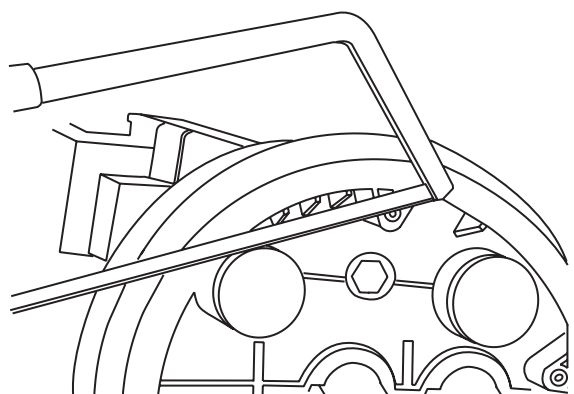

Figure 21 — Open Drop Port
- Step 1** Choose a cable port to be used and open the port using a hacksaw or a knife (Figure 21). Be careful not to damage the internal threads of the drop port while sawing.